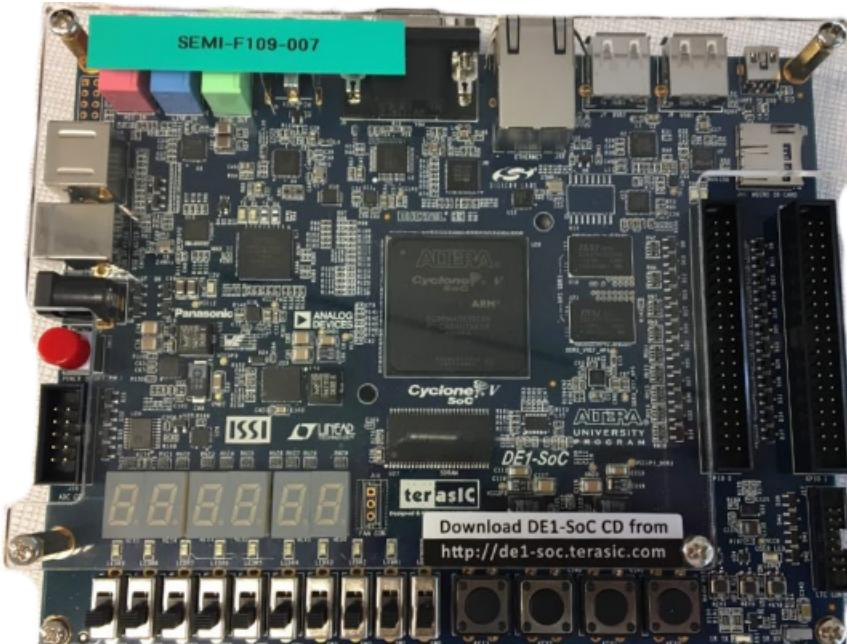

FIG. 1.1 : DE1-SoC Board
1. a FPGA (DE1-SOC see fig.1.1), who allows us to drive the LED matrix. This board contains some buttons, switch and GPIO inputs. For our goal, we will just use 5 PINS who are VCC, GND, GPIO(1), GPIO(3) and GPIO(5). The three GPIO stand for DIN (data input), CS (chip select) and CLK (clock) who are the signal needed to control the LED matrix.